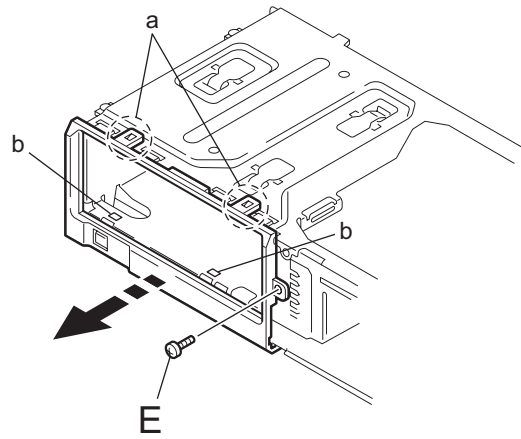

Fig.10
2.3.3 Removing the fitting (See fig.10)